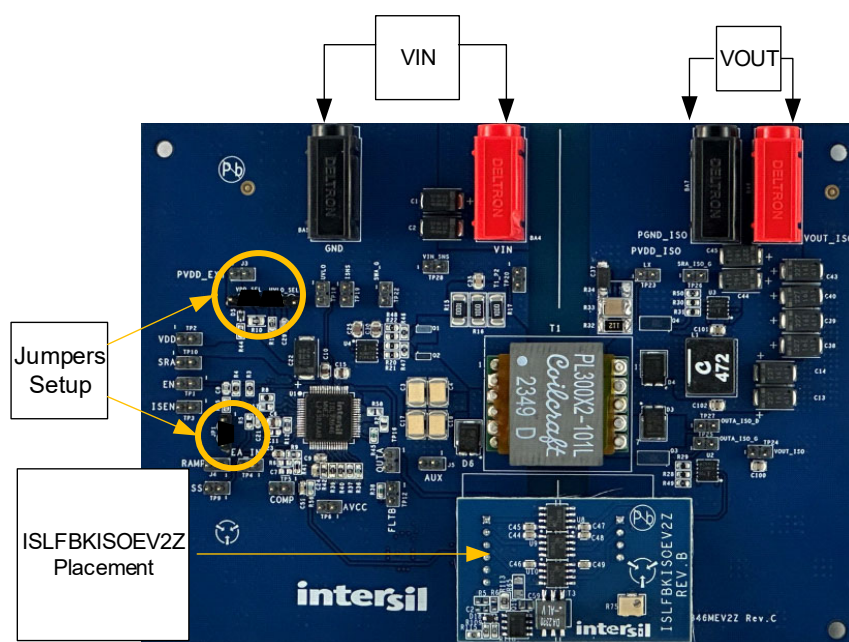

Figure 4. Setup Configuration
4. Place ISLFBKISOEV2Z on J1 and J2 as shown in Figure 4.
5. Apply a 22V to 34V voltage to VIN banana plug connectors as shown in Figure 4.
6. A resistor or electronic load can be connected to the VOUT banana plug connectors as shown in Figure 4.